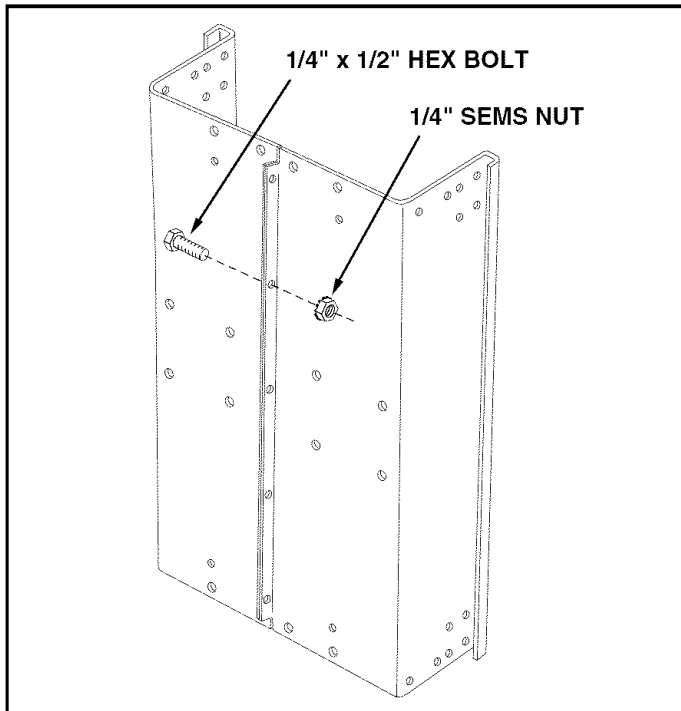

FIGURE 1
3. Position cart body halves upright on a smooth level surface such as a garage floor or a paved driveway. See figure 1.
4. Assemble halves together using five 1/4" x 1/2" hex bolts and 1/4" SEMS nuts as shown in figure 1. **Do not tighten yet.**